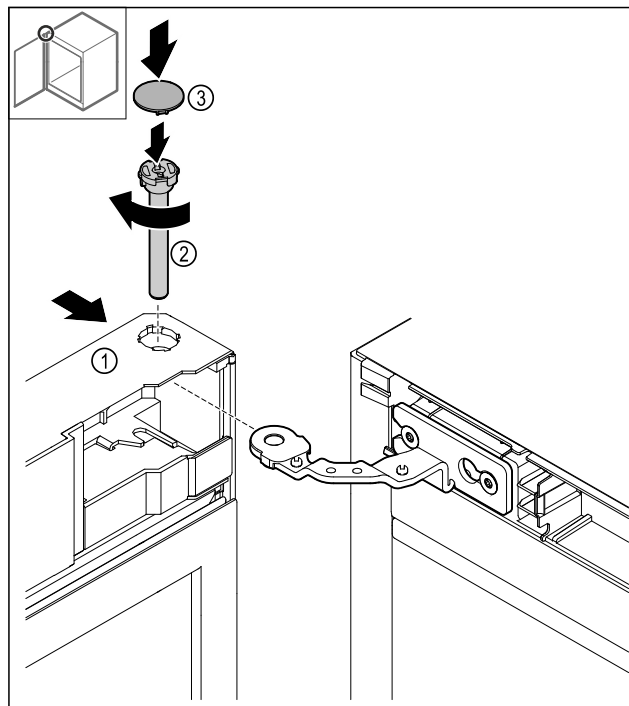

Fig. 50
- Slide the door Fig. 50 (1) onto the top hinge.
- Insert the bolt Fig. 50 (2) and turn it clockwise to tighten.
- Put on the cover Fig. 50 (4).